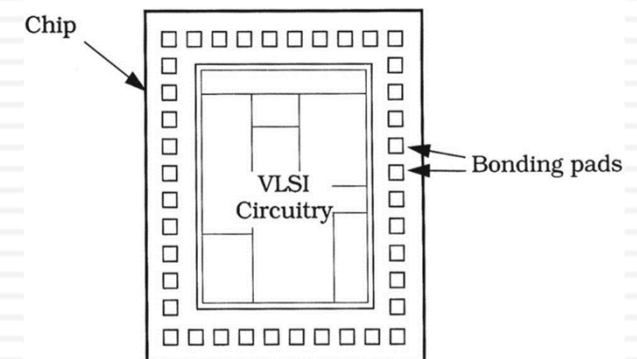

Figure 1.5 Bonding pad frame for interfacing
- Today, the most powerful topic is System-on-Chip (SoC) that using *bonding pad* technology as Figure 1.5 shows